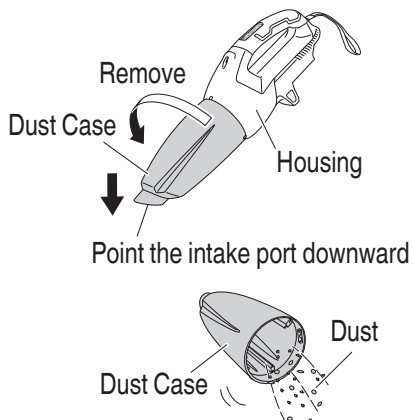

Fig. 21
1. Turn the dust case and pull it from the housing. (Fig. 21)